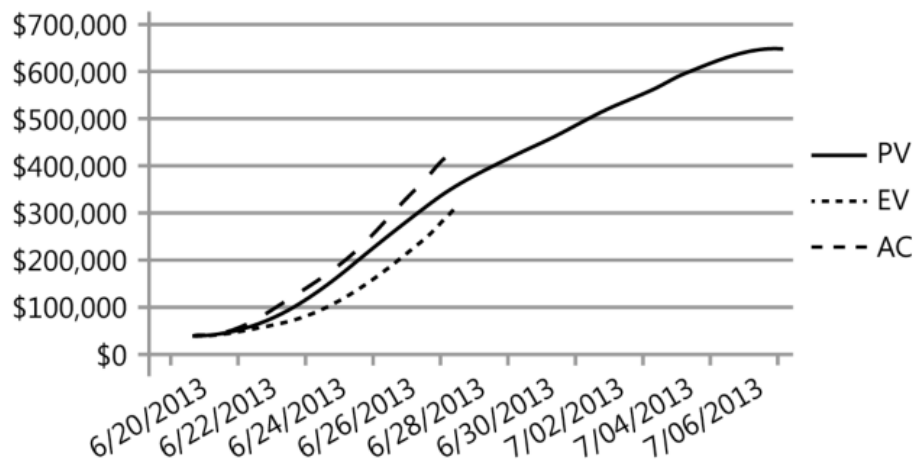

FIGURE 5-5 A record of project planned value, earned value and actual cost
3. **Earned value (EV)** The value of the work that has been completed. This is not the actual cost of the work that has been completed but rather the original ascribed value from your approved cost baseline for the value of the work.
4. **Actual cost (AC)** The actual realized cost you incurred for the work that you have done to date. You will be able to get a record of this from your accounts system.
Figure 5-5 shows the budget at completion (BAC), planned value (PV), earned value (EV), and actual cost (AC) on a single graph. Incidentally, it shows a project in trouble in terms of both time and cost because the actual cost is above the planned value, and the earned value is less than the planned value.